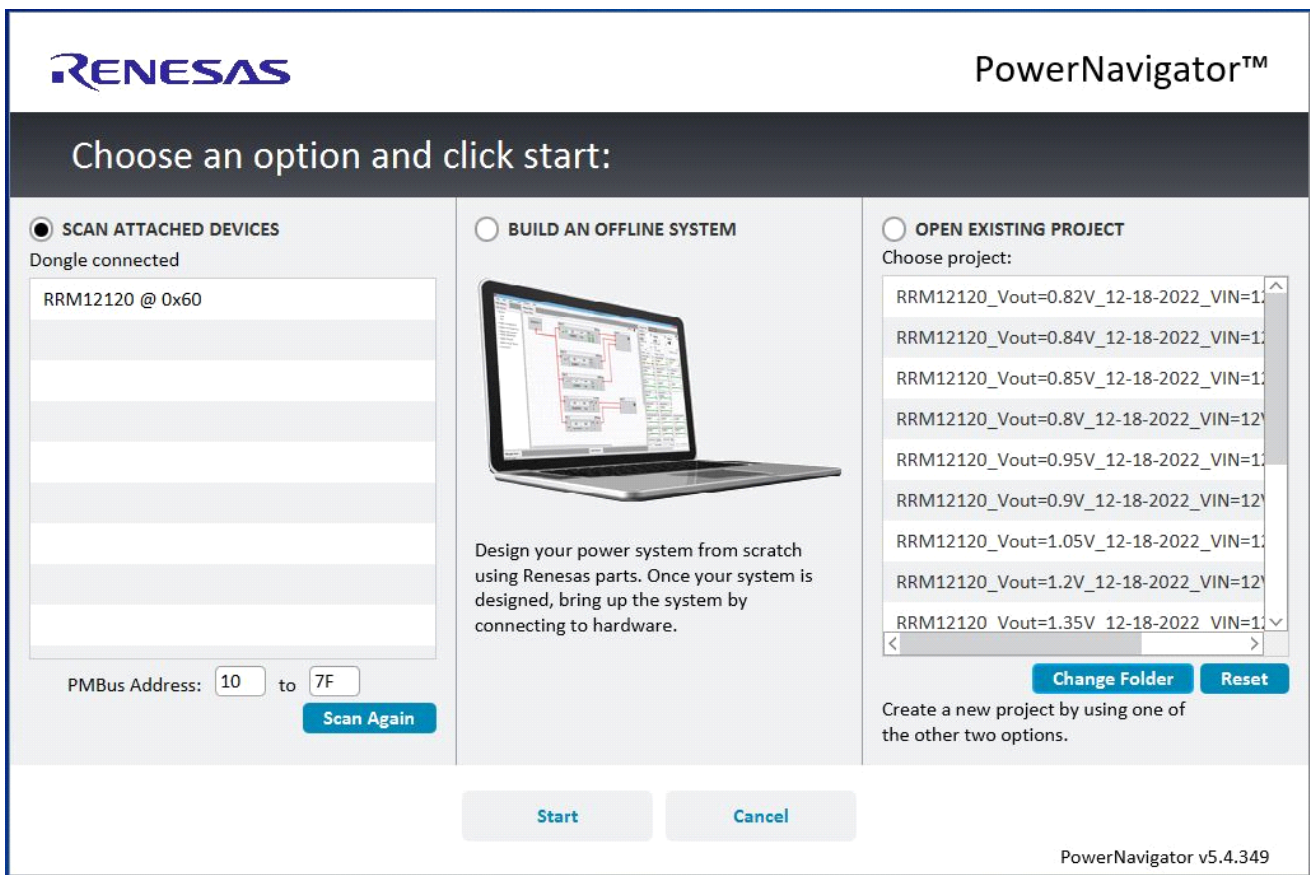

Figure 2. PowerNavigator Start Page
8. Launch the PowerNavigator software. The PowerNavigator software interface is shown in Figure 2. The module RRM12120 part number and I2C address (0X60) appears under Scan Attached Devices section.